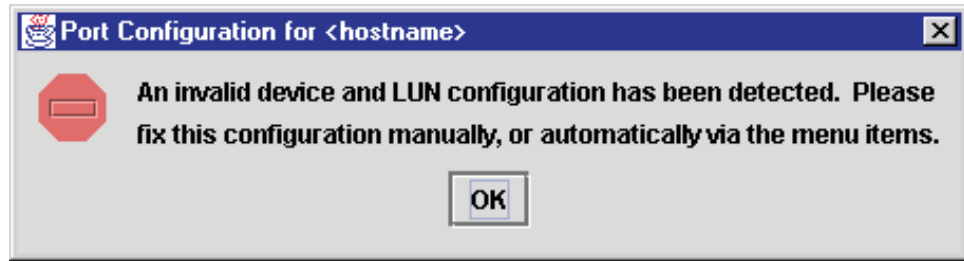

Figure 91. Port Configuration Message dialog window
**Note:** You will see the message shown in Figure 91 on page 217 prior to configuring the ports for the first time.